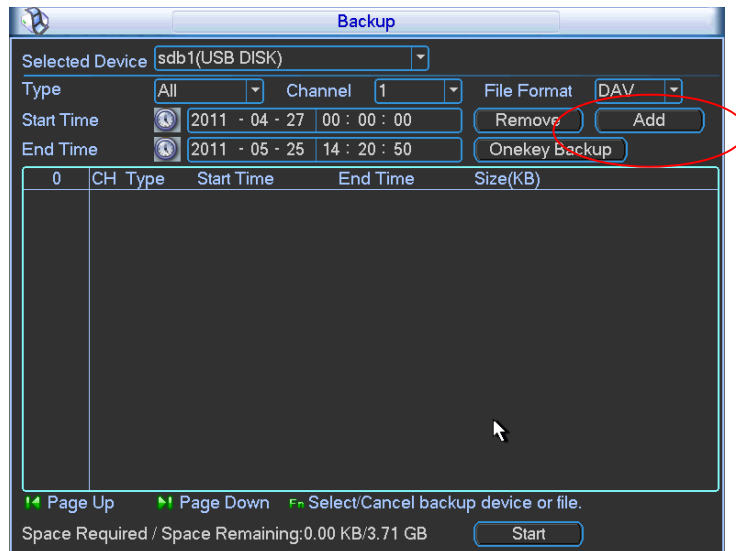

Figure 5-48
- Click add button, system begins search. All matched files are listed below. System automatically calculates the capacity needed and remained. See Figure 5-48.